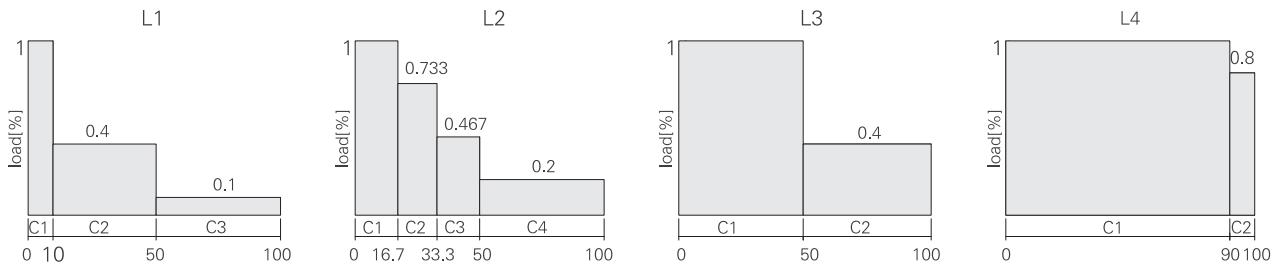

图3 起重机械典型载荷谱/Figure 3 Crane load spectrum
## 5.3 起重机械典型载荷谱 ( 图3 )
5.3 Typical load spectrum for crane (figure 3)